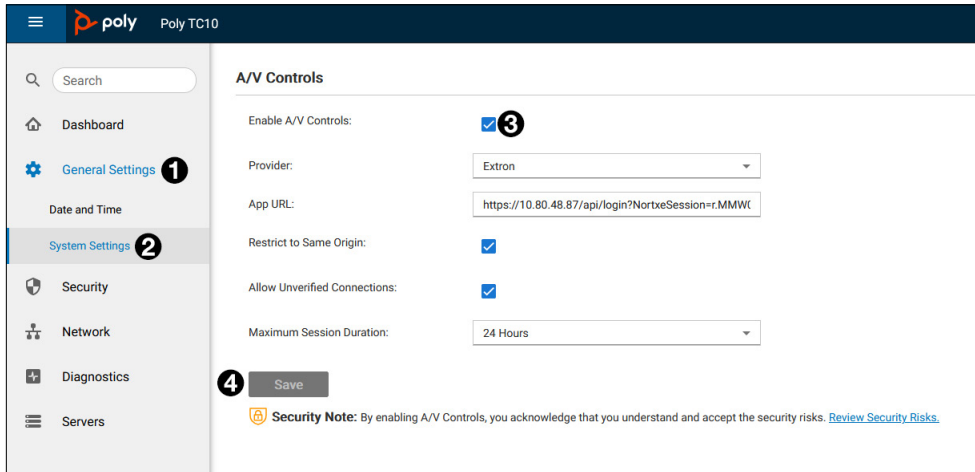

Figure 9. Enable A/V Controls
3. Navigate to **General Settings** (see figure 9, 1) then to **System Settings** (2)
4. Uncheck **Enable A/V Controls** (3).
5. Click **Save** (4).